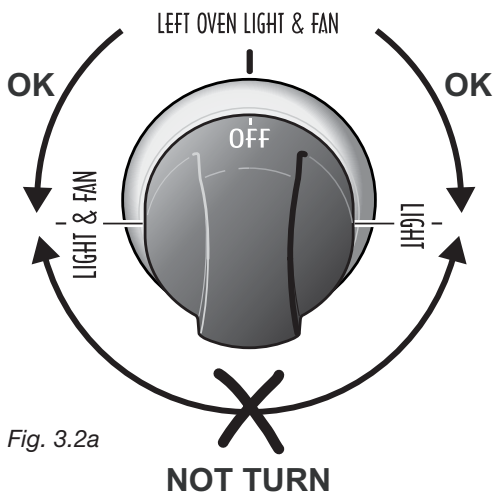

Fig. 3.2a
The oven light and the fan motor are controlled by a switch knob on the control panel (fig. 3.2a - 3.2b). To light up the oven lamp turn the knob anti-clockwise to LIGHT position.
**IMPORTANT NOTE:** during ignition of the oven burner the fan motor shall be switched off (light and fan control knob in **OFF** position - Figs. 3.2a - 3.2b).
After lighting the oven burner switch on the fan motor by turning the LIGHT & FAN control knob (fig. 3.2a - 3.2b) on **LIGHT & FAN** position.
With the oven burner control knob in **OFF** position turn the LIGHT & FAN control knob (fig. 3.2a - 3.2b) on **LIGHT & FAN** position.